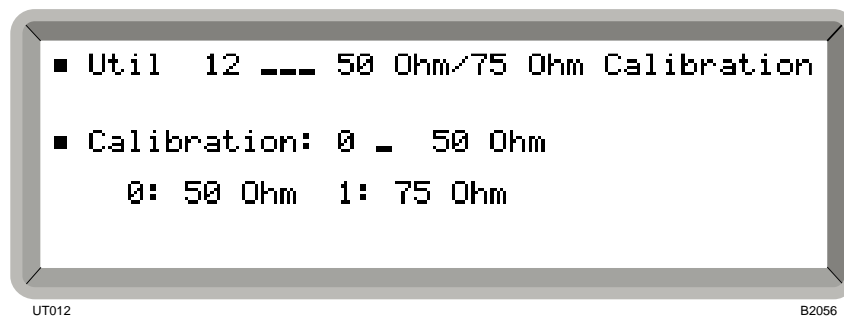

Fig. 4-31 50 Ω /75 Ω calibration menu
- (1) First of all connect the 50 Ω /75 Ω adapter to the front-panel RF OUTPUT socket.
- (2) Select the *Util 12: 50 Ohm/75 Ohm Calibration* menu. This shows the currently selected impedance (see Fig. 4-31).